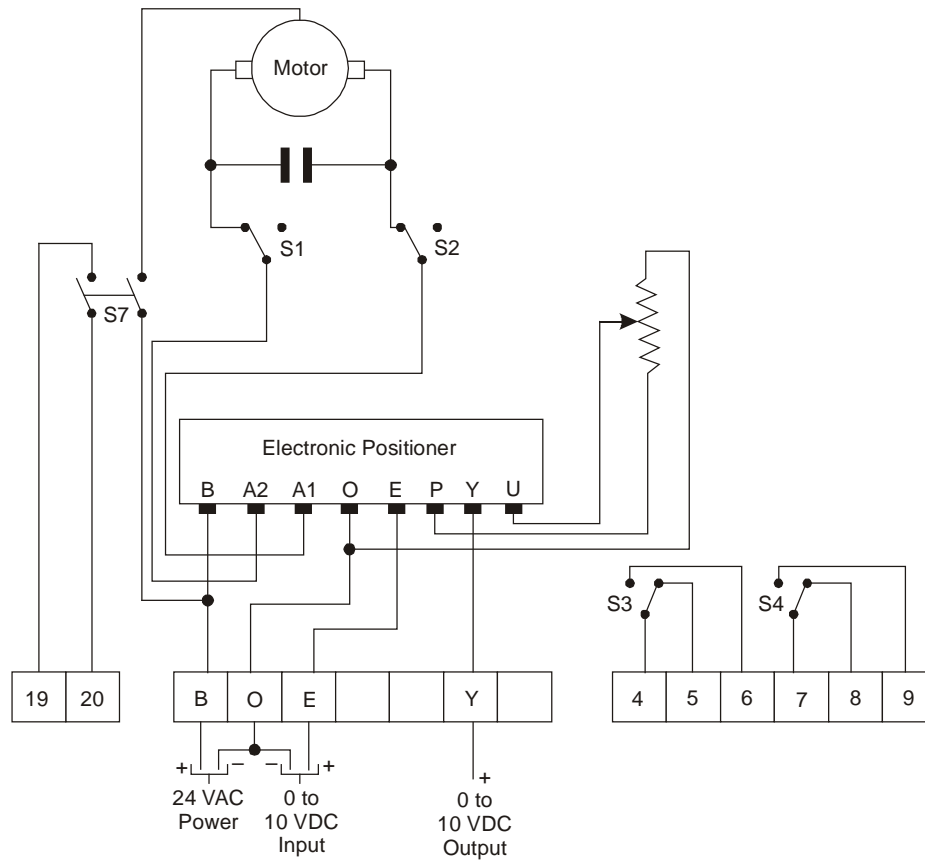

Figure 7: VA-3100-HGC Wiring Diagram for Proportional Control
7. Depress the side of the black power rocker switch marked with the symbol (—) and apply power to Terminals B and O (as illustrated in Figure 7) to drive the valve stem fully down.
8. Connect a voltmeter to Terminals Y and O (as illustrated in Figure 7) to monitor feedback voltage. The voltmeter should be on the 10 V range or set for auto.
9. Apply a 0 VDC input signal to Terminals E and O (as illustrated in Figure 7). The valve stem should travel to the fully down position.
11. Turn the feedback potentiometer clockwise to its stop using a 3/16 in. blade screwdriver. Then turn the feedback potentiometer counterclockwise until the feedback output voltage at Terminals Y and O (as illustrated in Figure 7) is 0.75 to 1.0 VDC.
12. Increase the actuator input voltage to 10 VDC; the input signal is on Terminal E and the input signal common is on Terminal O (as illustrated in Figure 7). The valve stem should travel to the fully up position.
13. Check the feedback output voltage at Terminals Y and O (as illustrated in Figure 7). Adjust the compensating potentiometer until the feedback output voltage just equals 9 to 9.25 VDC.
15. Decrease the actuator input voltage to 0 VDC; the input signal is on Terminal E and the input signal common is on Terminal O (as illustrated in Figure 7). The valve stem should travel to the fully down position. Check that the feedback output voltage is still 0.75 to 1.0 VDC.